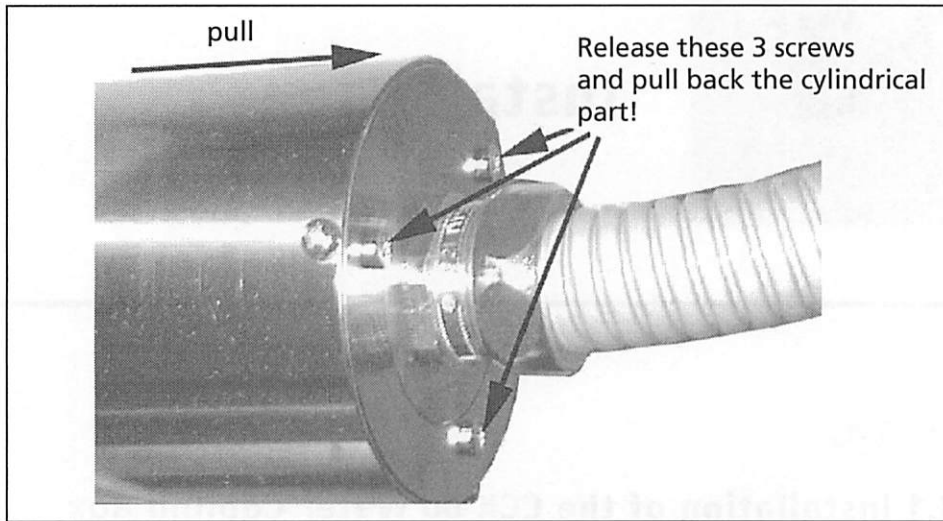

Figure 10 Fixing and Removal of the Protection Cover
2. Remove the 3 screws at the rear of the protection cover (not on the cylindrical part, figure 10, page 18) to push the water connectors and the HV cable outside the cylindrical housing.
For bakeout the HV cover together with the water pipes and the HV cable have to be removed from the X-ray source module (see figure 10, "Fixing and Removal of the Protection Cover", page 18).
- Open the protection cover of the X-ray source (figure 10, page 18)!